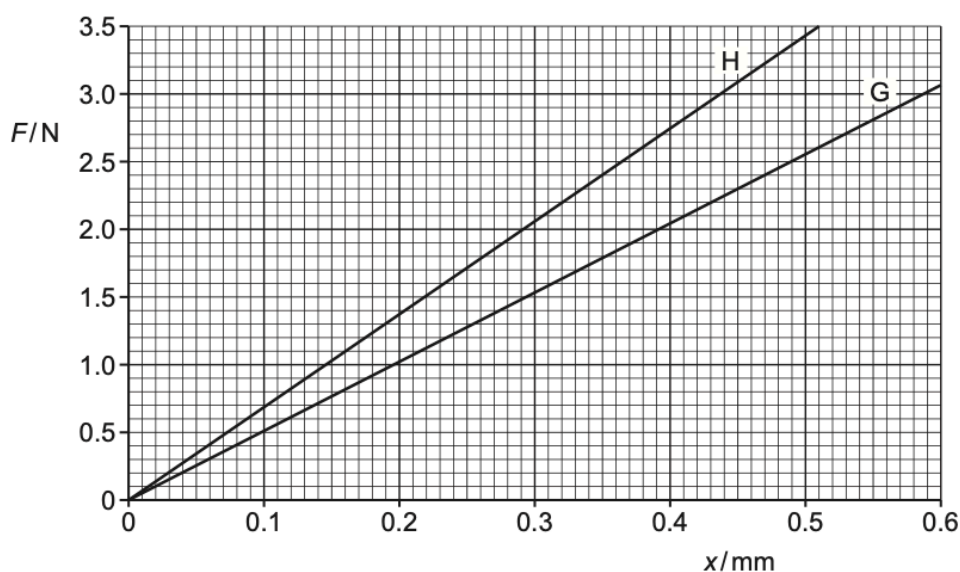

Fig. 4.1
- 14 Fig. 4.1 shows the variation with extension  $x$  of the tensile force  $F$  for two wires, G and H, made from the same material.
- (a) For the lines in Fig. 4.1: